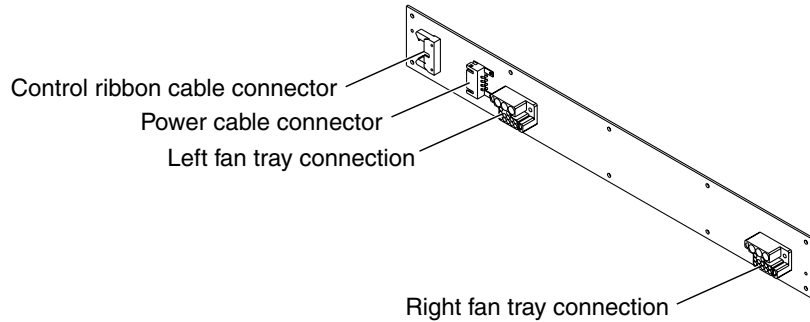

FIGURE 14-2 Fan Backplane Connections
5. Disconnect the power cable connector and the control ribbon cable connector from the fan backplane. See FIGURE 14-2.
1. Orienting the fan backplane with the power connector and the control connector on the left (FIGURE 14-2), insert the board at an angle into the cabinet around the fan tray slot separator (center of the double fan tray location) and set into position over the mounting holes.
2. Secure the fan backplane with the ten (10) M4x6 panhead screws by using a Phillips No. 2 extra long (11 in. (27.9 cm) minimum) magnetic-tip screwdriver, provided in the shipping kit.
3. Connect the power cable connector and the control ribbon cable connector to the fan backplane. See FIGURE 14-2.